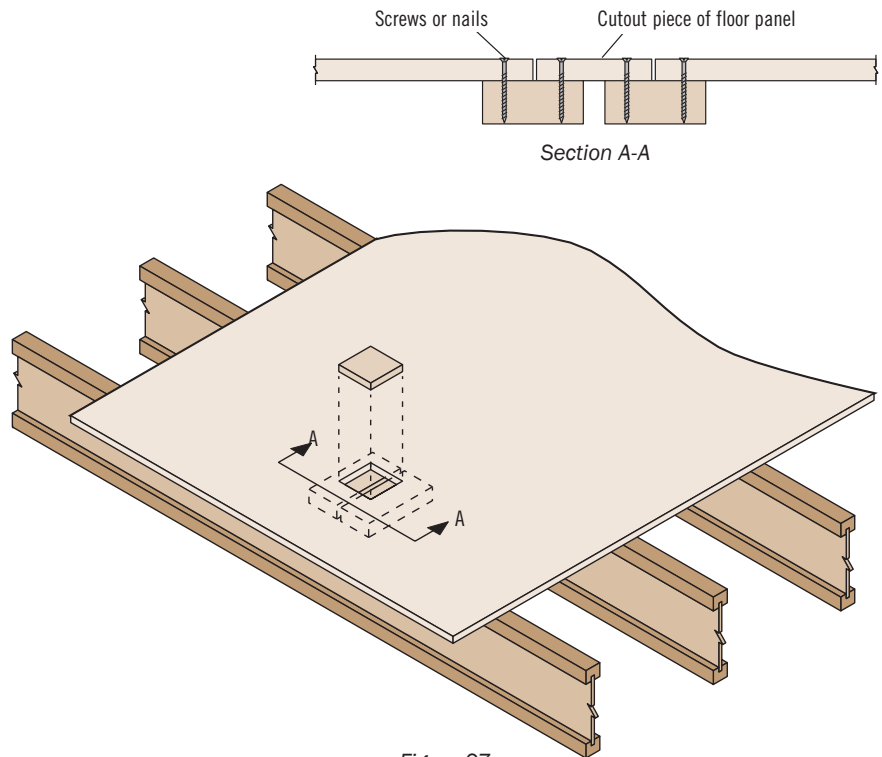

Figure 27
6. Glue and screw the cutout piece of floor panel back in place on the 2x4s. See *Figure 27*.